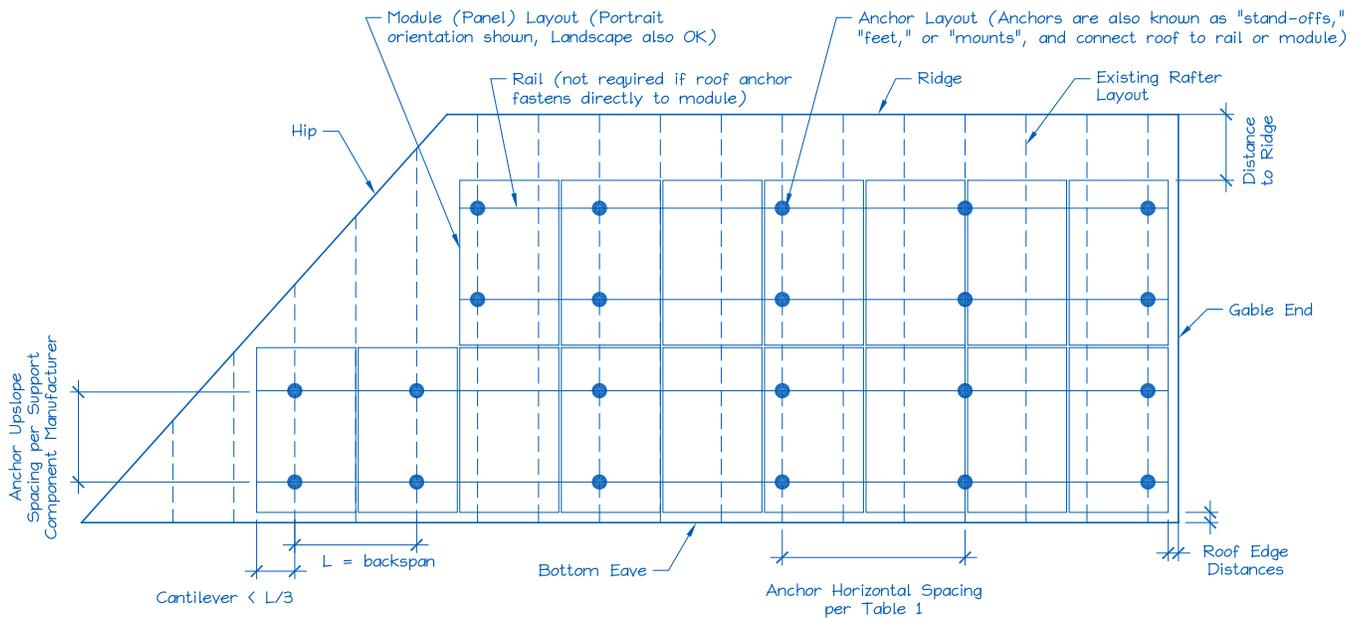

Figure 2. Sample Solar Panel Array and Anchor Layout Diagram (Roof Plan).
E. Is a roof plan of the module and anchor layout attached? (see Figure 2) Y N
- 1) Proposed anchor horizontal spacing (see Figure 2): _____' - _____"ft-in
1. Anchors are also known as "stand-offs", "feet", "mounts" or "points of attachment". Horizontal anchor spacing is also known as "cross-slope" or "east-west" anchor spacing (see Figure 2).